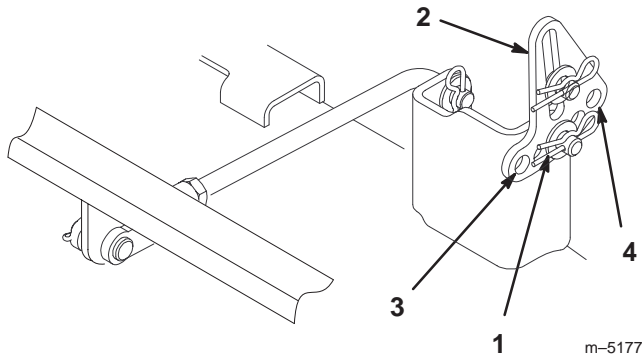

Figure 40
5. Remove the hairpin cotter and washer from the leveling bracket (Fig. 40). To level the blade(s), reposition the leveling bracket(s) in a different hole and install the
washer and hairpin cotter (Fig. 40). A front hole lowers the blade height and a rear hole raises its height. Adjust both sides as required.